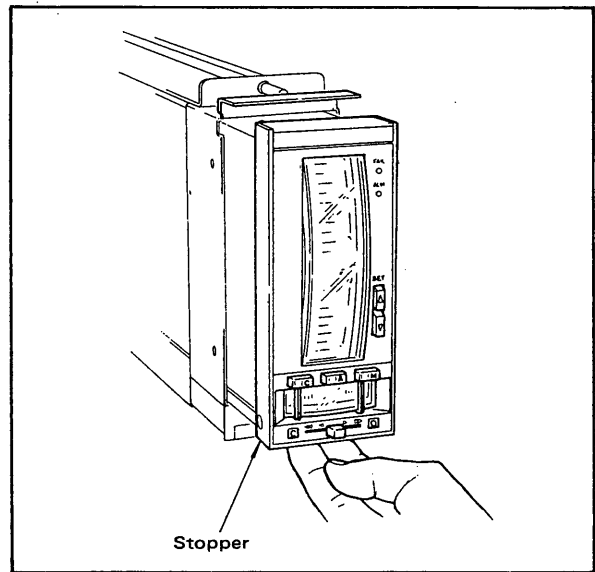

Figure 5-2-1. Removing the Instrument Module.
- (1) Push up on the stopper located below the front panel and draw the unit out. About halfway out the module will contact an intermediate stopper. (See Figure 5-2-1).